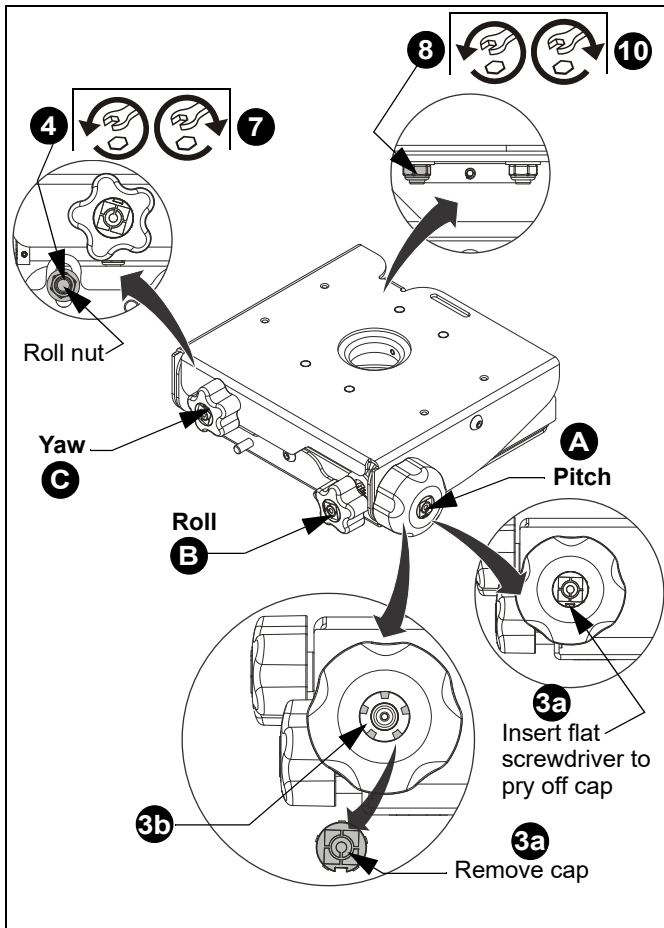

Figure 4
1. Turn **PITCH** knob (**A**) counterclockwise to pitch down. (See Figure 4)
4. Loosen Roll nut (located immediately below and left of **YAW** knob [black nut on white mount, silver on black mount]). (See Figure 4)
8. Loosen Yaw nut (black nut on white mount, silver on black mount) accessible through back of mount. (See Figure 4)